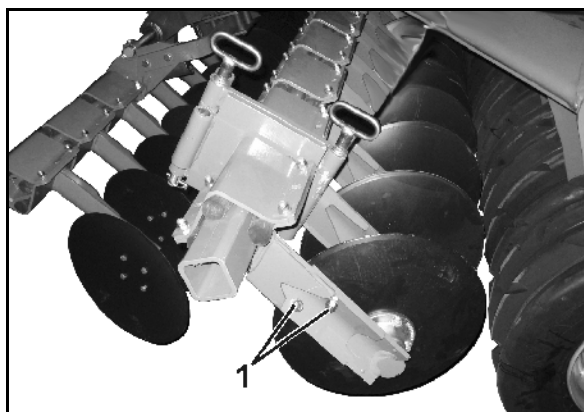

Fig. 46
2. Release screw unions (Fig. 46/1).